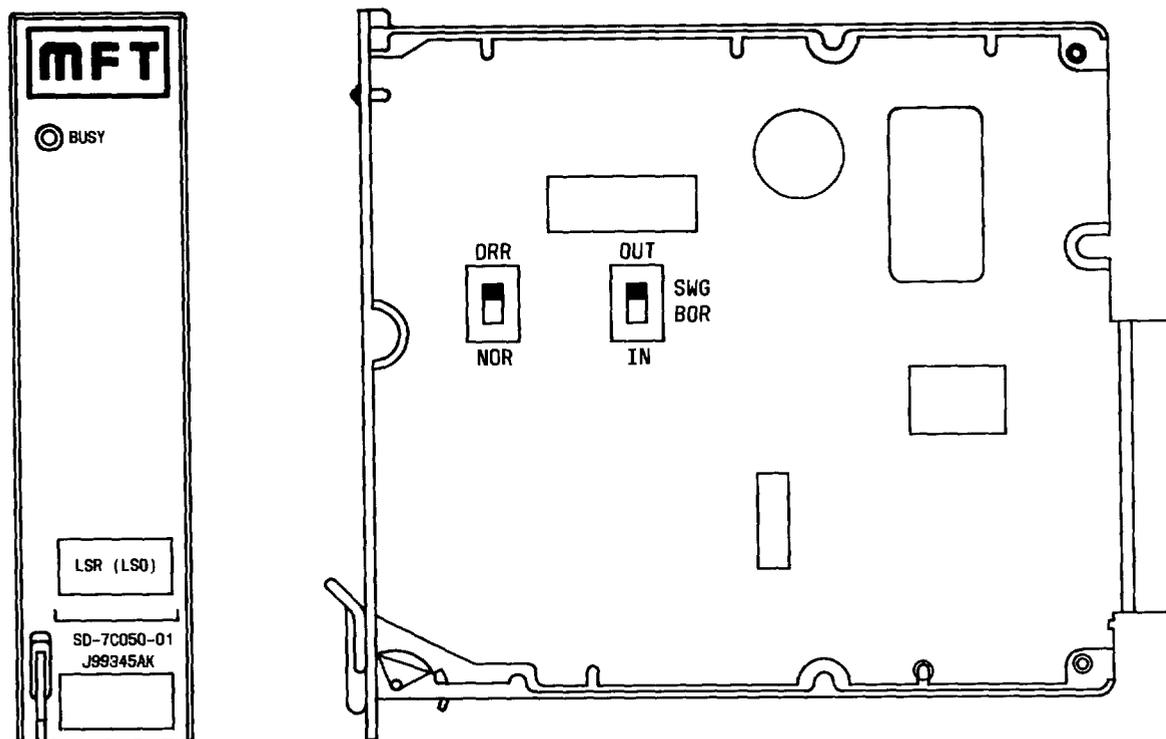
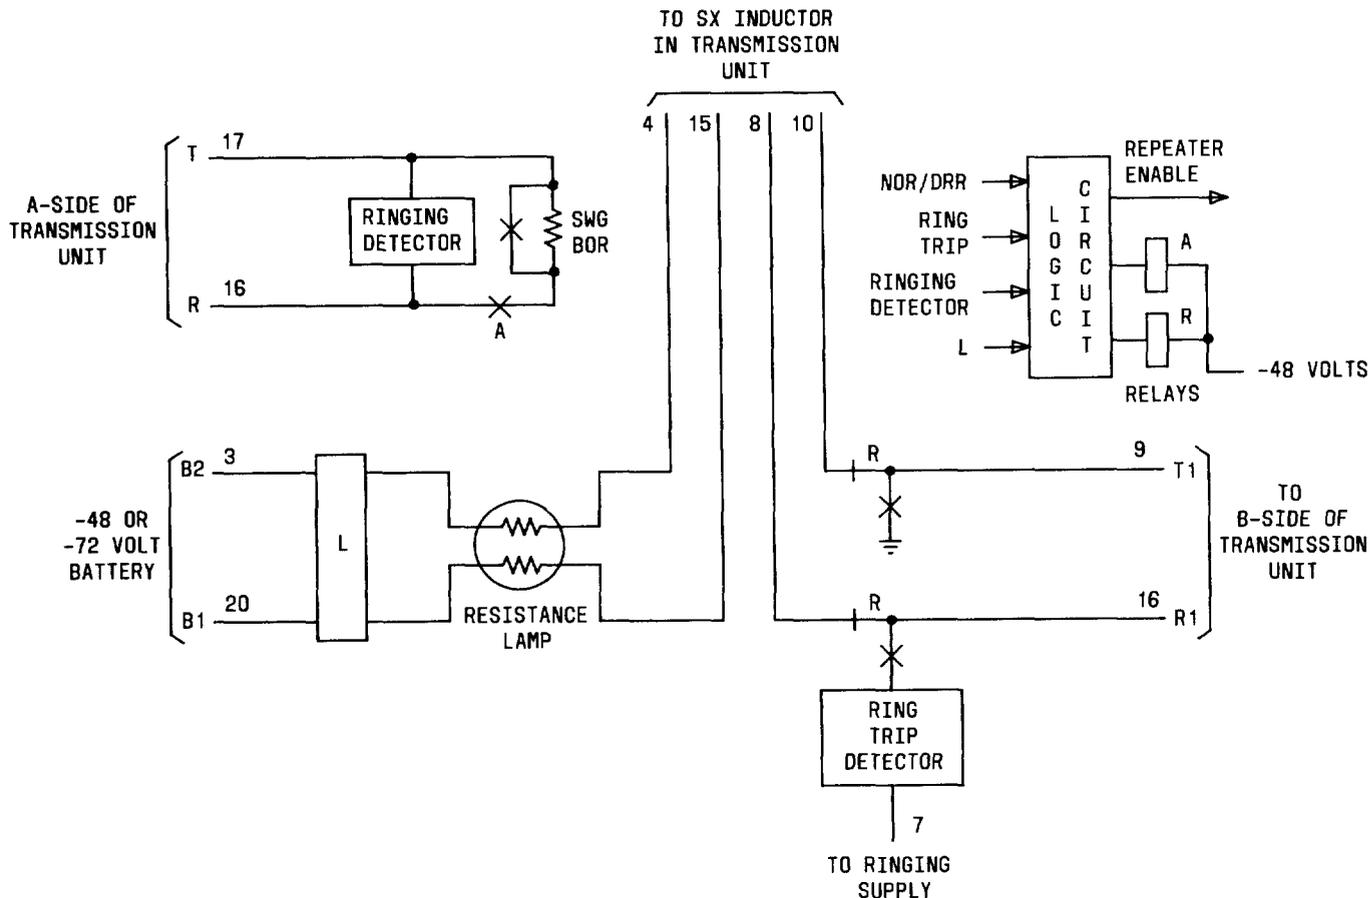

Fig. 3—J99343AK LSR (LSO)
Fig. 4—Block Diagram of J99343AK
3.01 The J99343AK LSR (LSO) is shown in Fig. 3. This unit provides regeneration of signals required for loop-start operation. Figure 4 is a block diagram of the unit. The following paragraphs contain a description of these functions.
3.06 The J99343AK LSR (LSO) unit controls are described briefly in the following paragraphs and are illustrated in Fig. 3.